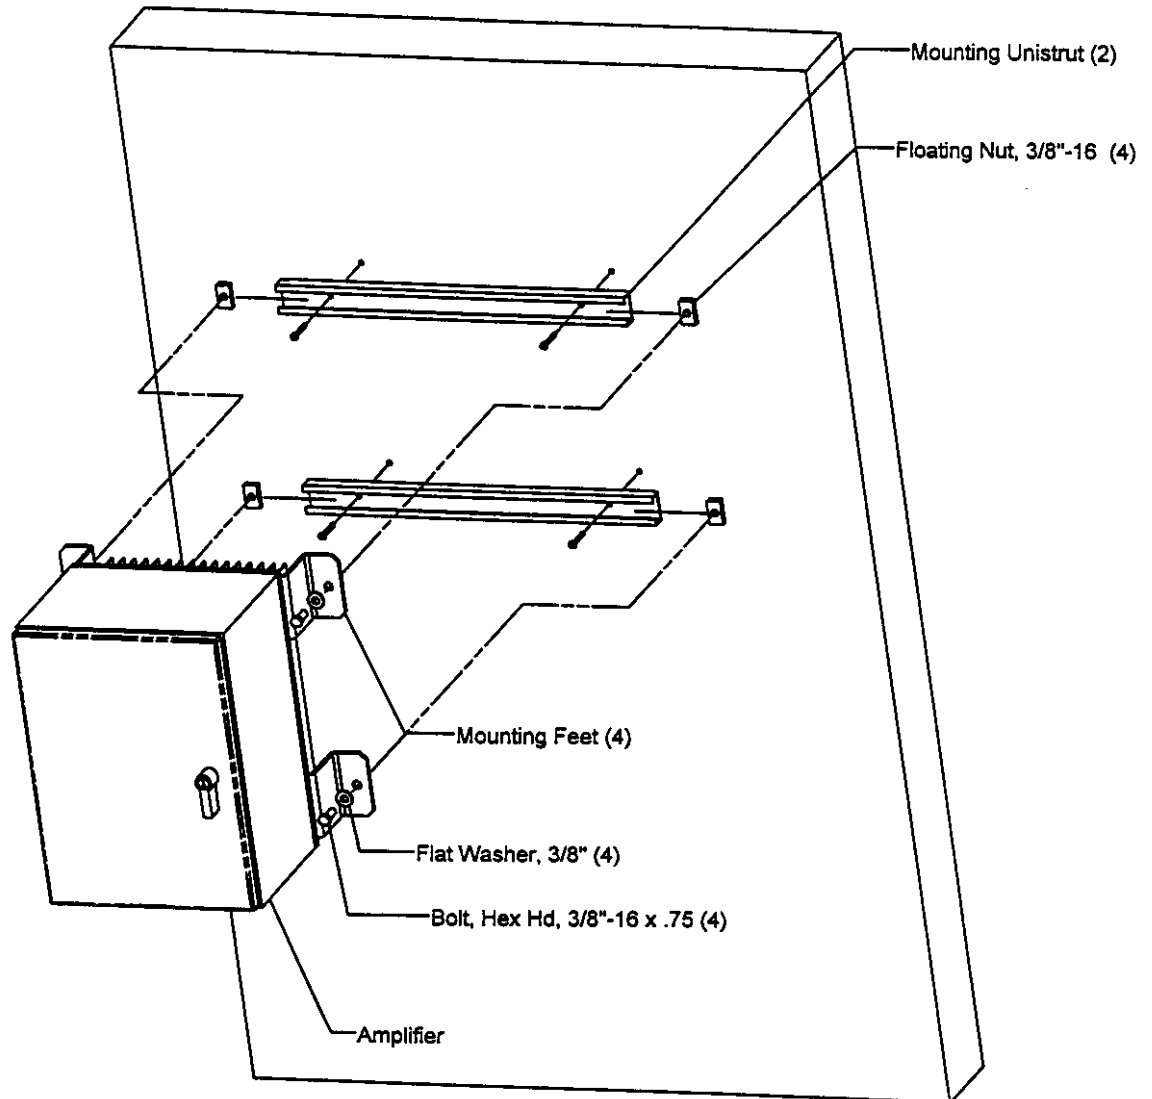

Figure 1 Wall Mounting
4. Amplifier Wall Installation, Figure 1.